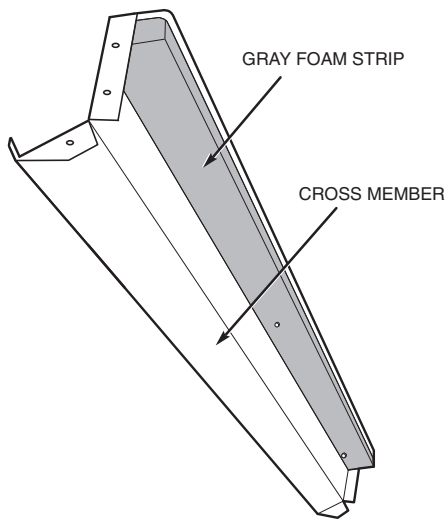

Fig. 30 — Adding Foam Strip to Cross Member
6. Add gray foam strip (provided in package) to cross members on bottom tray. See Fig. 30.